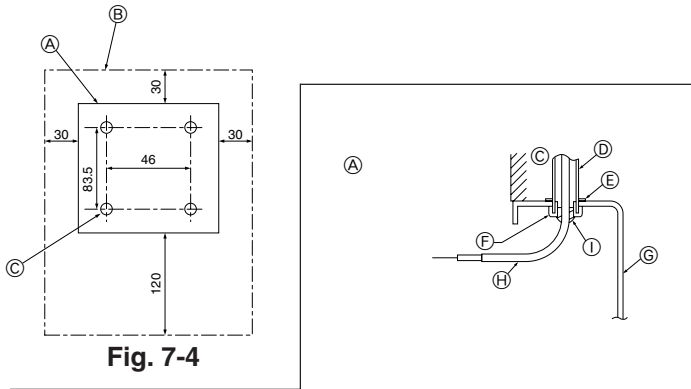

Fig. 7-4
(1) Select an installing position for the remote controller. (Fig. 7-4)